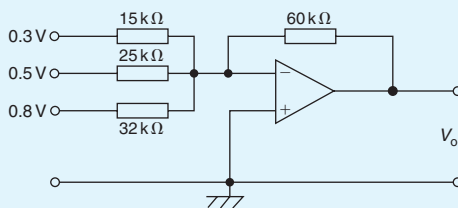

Figure 19.20
3. For the summing op amp shown in Fig. 19.20, determine the output voltage,  $V_o$